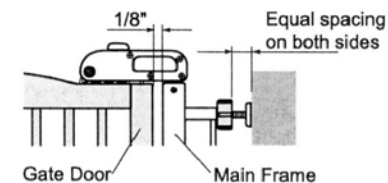

Fig. 4-2
3. Tighten the upper Adjuster Knob until the clearance between the Gate Door and the Main Frame is set to 1/8" to create equal spacing as shown in Fig. 4-2.
Tighten the Adjuster Knobs equally on both sides to prevent overturning or damage to the product as shown in Fig. 4-2.